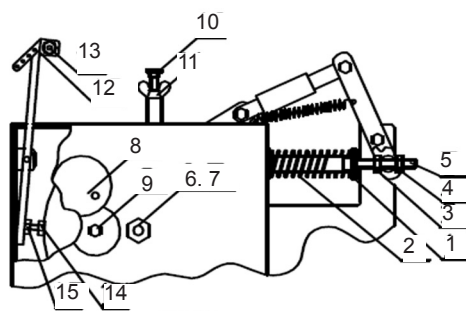

Fig. 8
- If the wire rope winds up without you having pressed the black push-button (1), then you probably tightened the nut (Pos. 7) too much and no more gap is available between the clutch and the drum. In this case release the nut and keep doing so till the rope no longer moves unless the black push-button was operated.
To facilitate winding of the wire rope, perform prebrake regulation with the screw (10) and the respective wingnut (11) (Fig. 8). A certain extent of prebraking is also performed by the roller fairlead (Pos. 12, Fig. 8). Exact prebrake regulation will also prevent the rope from unwinding excessively fast or accidentally slipping off the drum. Extreme fast unwinding and abrupt brake disengagement may cause severe damages to the wire rope.
- Tighten the nut (Pos. 3, Fig. 8) used to tension the spring
After the first operation hours you may possibly experience some extent of release of the drive chain that will then need to be restretched. Under normal continuing operating conditions the drive chain should be stretched every 60 operating hours. To perform stretching of the drive chain (fig. 8):
4 lubrication nipples are available on the winch to respectively perform lubrication of both the upper and lower snatchblocks and of the rope fairlead. Perform lubrication of the nipple (13) of the pre-braking arrangement (12, Fig. 8).